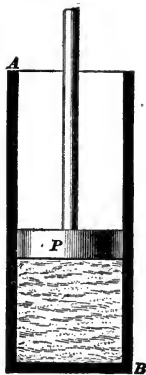

FIG. 1.
**4. Effects of Heat.**—Suppose we take a vessel filled with some substance, say water. Let the vessel be a cylinder fitted with a piston, as shown in Fig. 1. The water is, say, at the freezing point, and the millions of molecules composing the water are moving to and fro with a comparatively small velocity. Place the vessel over a fire or furnace. Heat is communicated to the molecules of water, and they begin to move faster and faster. That is, their kinetic energy increases, and if a thermometer is inserted in the vessel, it will be found that the temperature of the water rises. Consequently, one effect of heat is to raise the
**6.** Suppose that the piston in Fig. 1 is removed from the cylinder, so that the water will be in contact with the atmosphere, and that a thermometer is inserted. As the water becomes more and more heated, the temperature indicated by the thermometer will rise until it reaches  $212^{\circ}$ . So far, most of the heat has been used to raise the temperature of the water. But now, no matter how much heat is added to the water, the mercury stands at  $212^{\circ}$ , and cannot be made to rise higher. This is the reason: When the temperature reaches  $212^{\circ}$  the molecules of water have been set into such rapid motion that the force of cohesion is no longer able to hold them and they tend to separate. In other words, the water changes to a gas (steam), and all the heat is being used to effect this change. The temperature of the steam will remain at  $212^{\circ}$  until all water is changed to steam; then, if more heat is applied, the temperature of the steam will begin to rise.
**8. Summary.**—By a study of the results of applying heat to the substances that have just been considered, we see that the effects of heat most commonly observed are: (1) It increases the rate of motion of the molecules, an effect that is indicated by an increase in temperature. (2) It increases the lengths of the paths of, and the distance between, the molecules, thus causing the body to expand and fill a greater space. (3) It overcomes the attractive forces that tend to hold the molecules of a substance together, and thus changes it from a solid to a liquid or from a
**12. Relation Between Heat and Work.**—Suppose that, in the experiment shown in Fig. 1, the piston had been allowed to remain in the cylinder while the water was being changed to steam. Steam at 212° occupies nearly 1,700 times the space that the water originally occupied. Hence, the piston would be lifted in the cylinder to give room for the steam that was being formed. But to raise the piston requires work. Here, then, is an example of work being performed by heat. On the other hand, work will produce heat. If two blocks of wood are rubbed briskly together, they will become warm, and may even ignite. The work done in overcoming friction causes the journals and bearings of fast-running machines to heat. A small iron rod may be heated to redness by pounding it on an anvil.